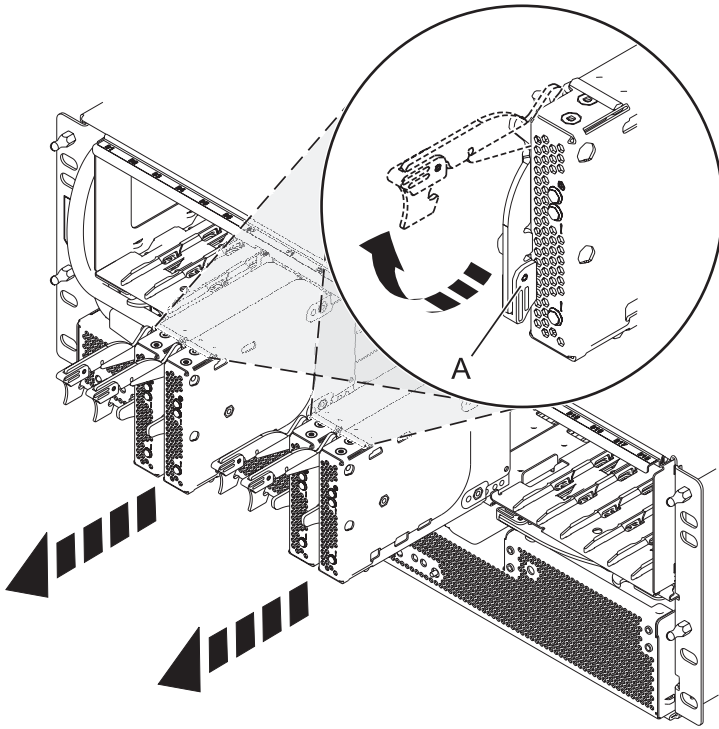

Figure 104. Removing the port card from the backplane
5. Remove the port cards and fillers as shown in Figure 104 on page 108.
- a. Hold the end of the latching handle (A) and pull it upward to unlock the port card.